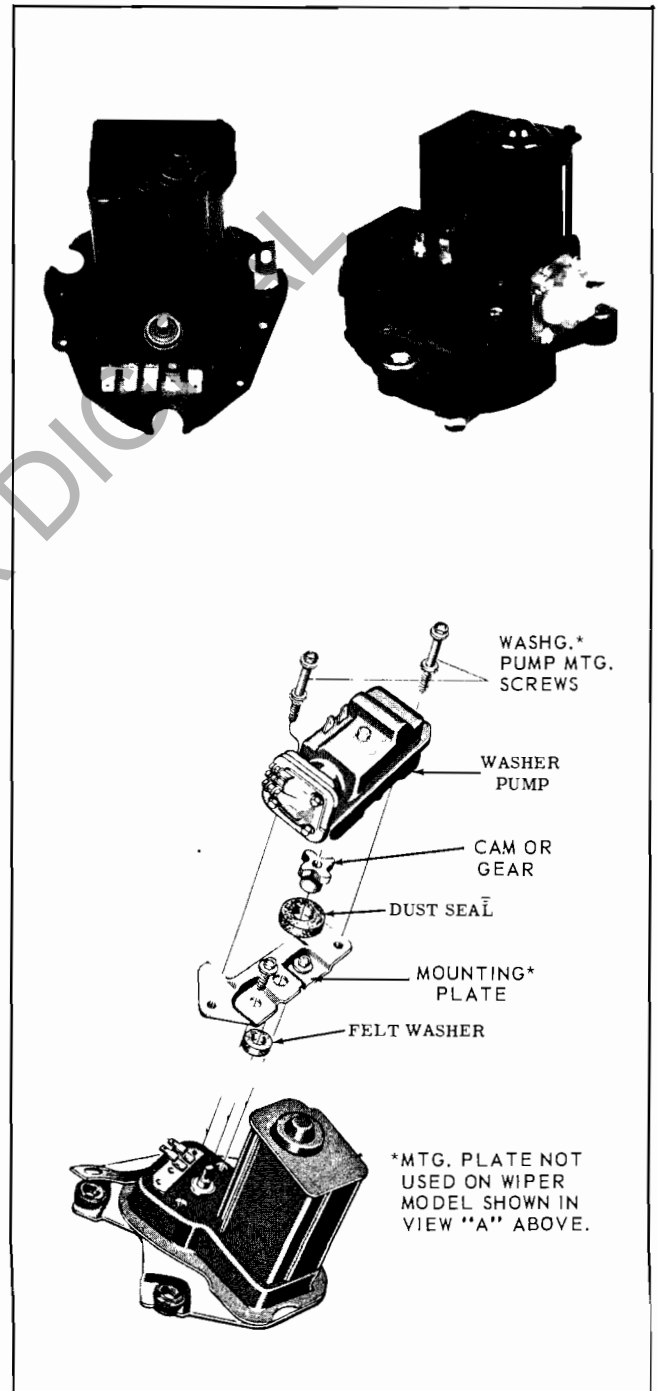

FIGURE 15
- (a) Remove the two washer pump mounting screws (Figure 15) and carefully lift the washer pump off the wiper.
NOTE: Figure 15 shows washer pump with two piece cover. Pump with one piece cover disassembles in like manner.
- (c) On those Type "E" Wipers equipped with the rectangular gear case, remove the two screws that secure the pump mounting bracket to the wiper gear case. Figure 15.